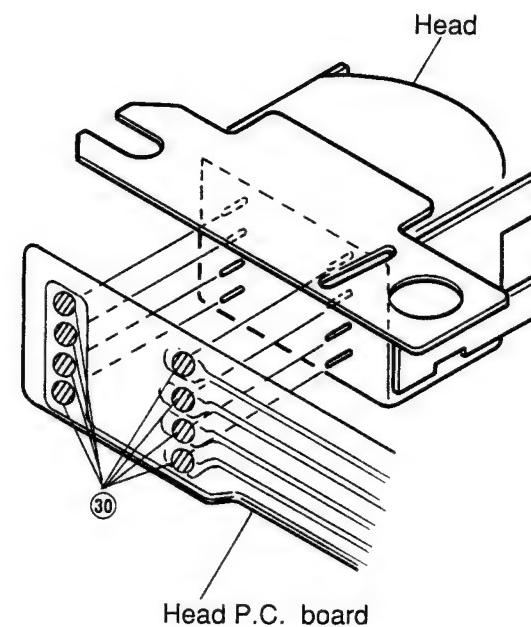

Figure 22
- (2) Remove solder ③0 and remove the head from the head P.C. board as shown in Figure 22.
- (3) After replacement, mount the new head following the removal steps in the reverse order.